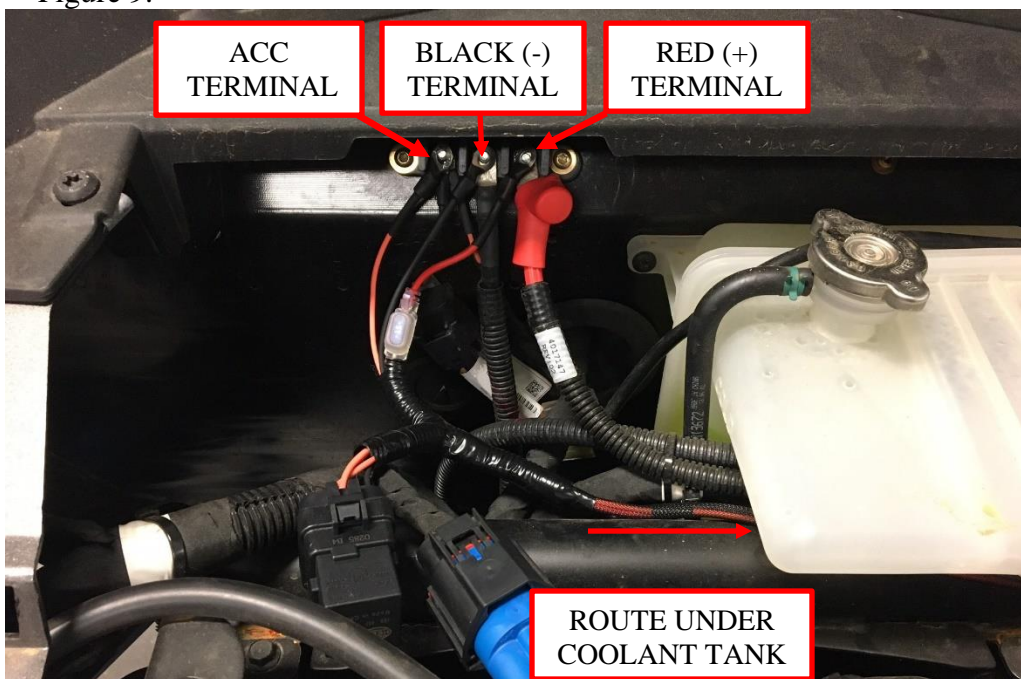

Figure 9: Connect the harness to the terminal posts.
9. Install the chassis harness reusing the factory nuts on the terminal posts. Connect the orange ignition wire to the terminal post labeled "ACC", the black ground wire to the black (negative) terminal post, and the red power wire to the red (positive) terminal post. Be sure to connect the harness wires with any factory cables or wires, and retighten the factory hardware. Run the connector under the coolant tank, along the frame tube, toward the driver's front fender well. See Figure 9.